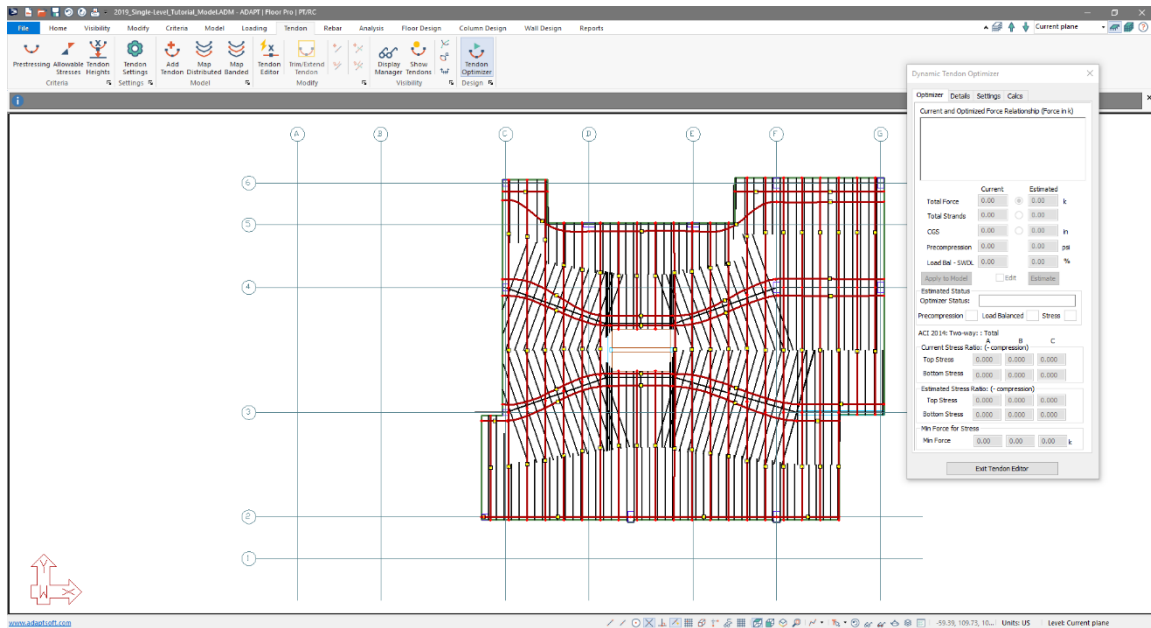

Figure 8-58
- The tendon control point heights should now be shown in red and yellow. Red marking the high points of the tendons and yellow marking the low points of the tendon as shown in **FIGURE 8-58**.